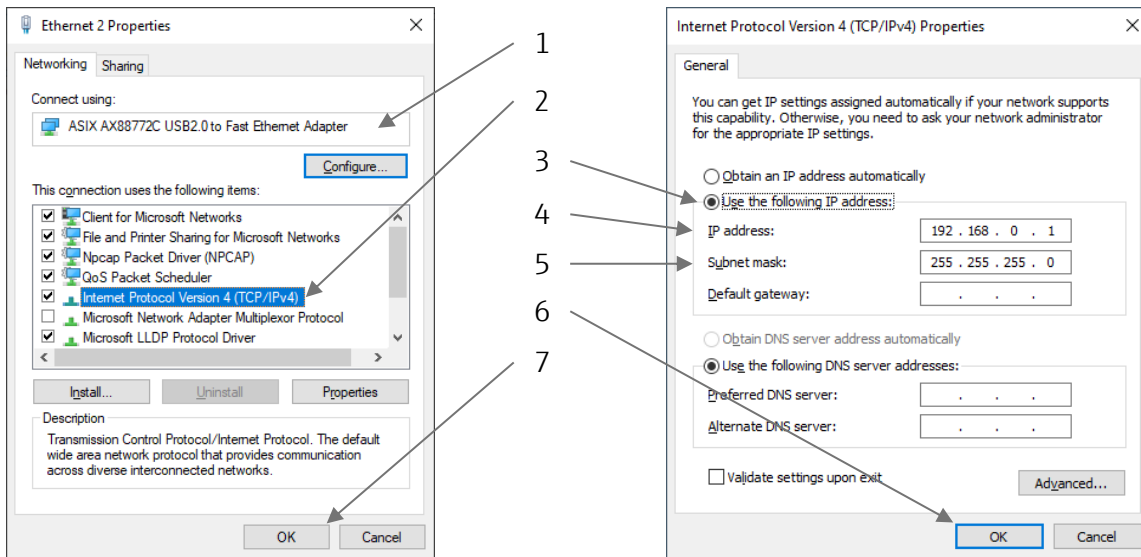

Fig. 12 Interface properties (left) and TCP/IPv4 properties (right)
- Follow the steps described below Fig. 12.